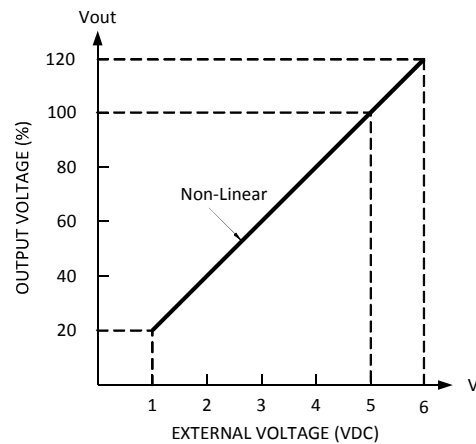

Fig 3.2
- Trimming of output voltage is allowed between 20~120%(Typ.) of the rated output voltage as is shown in Fig 3.2.